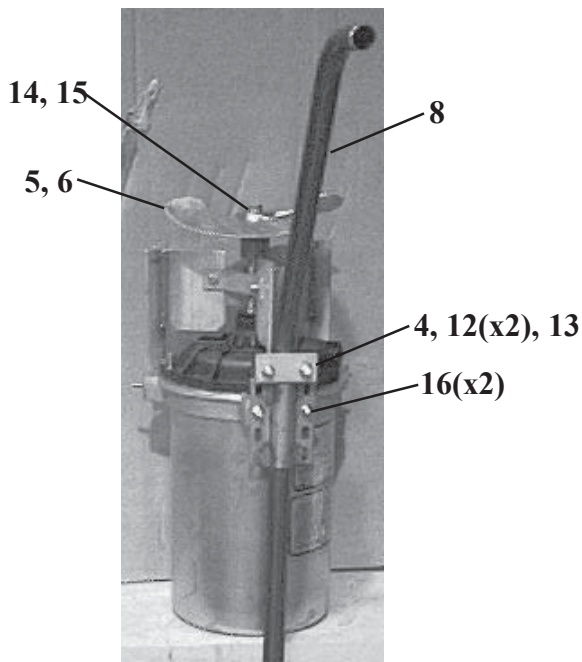

Figure 7
B. Installing Adjustable Support Arm. - see Figure 7
1. Attach the adjustable support arm to the mounting ring using (2) 1/4" flange nuts. Torque to 10-12 ft-lbs.
C. Installing High Volume Impeller and Flow Straightener Assembly - see Figure 7